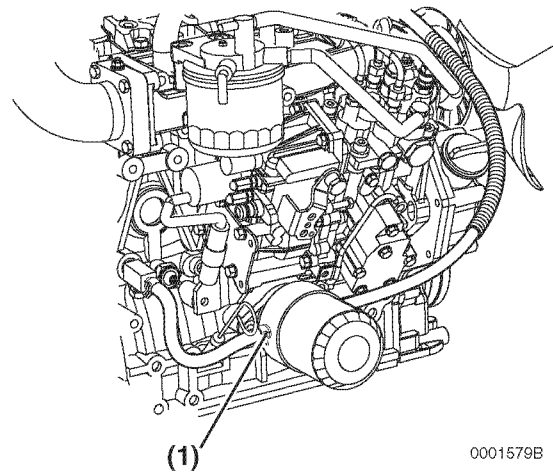

Figure 8-5
- On models equipped with an oil cooler, remove the coolant hose (Figure 8-5, (1)) at the oil cooler.